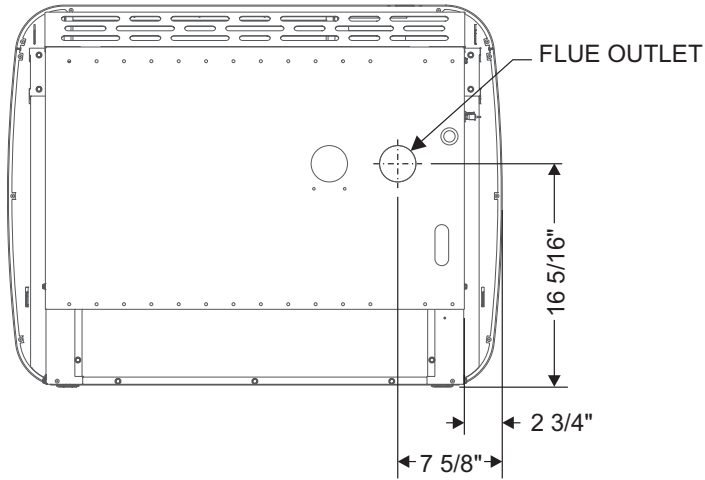

Figure 3
4. Install the PVS wall furnace and venting according to the instructions provided with the wall furnace. **See Figure 3.**